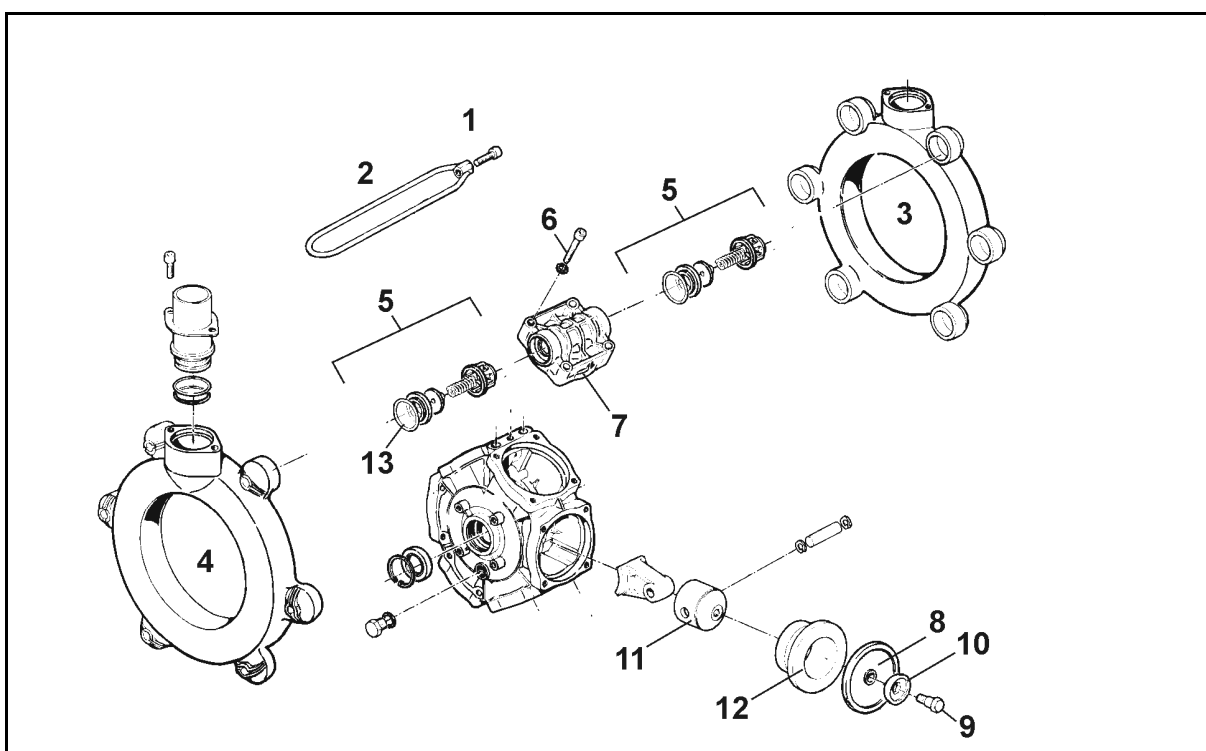

Fig. 157
1. Check whether the oil level is visible at the mark (Fig. 157/1) with the pump not running and standing on a flat surface.
3. If the oil level is not visible at the mark (Fig. 157/1), remove the lid (Fig. 157/2) and top up with oil.